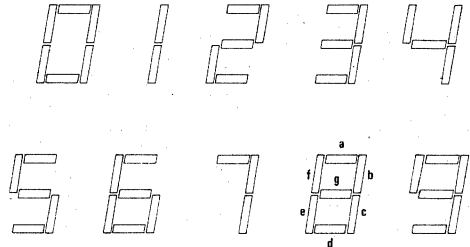

FIGURE 5. Character Display Font
**Display Multiplexing:** The counter data selected to be displayed is time-division multiplexed to provide digit-sequential presentation to the LED display. This reduces the number of outputs required to drive the 4-digit display to 11 (7 segment drivers and four digit drivers). The display font is shown in *Figure 5*. *Figure 6* is a schematic diagram of a typical LED watch using the MM5860/MM5880 watch chip. The digit outputs of the MM5860/MM5880 are designed to interface with the bipolar DS8658 digit driver chip and the segment driver outputs will interface with the bipolar DS8659 segment driver chip. The four digits of the LED display are multiplexed with a 25% duty cycle, 1024 Hz signal during the display period. The digit drivers are disabled for 32 $\mu$ s at the beginning of each digit enable time